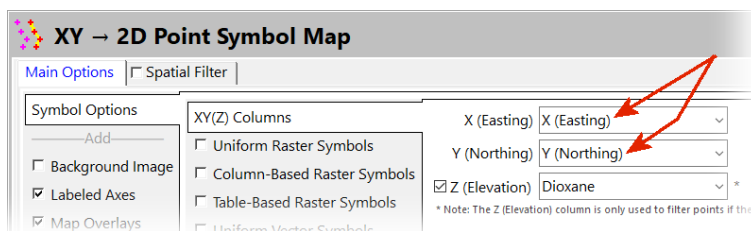

Figure 22
- We'll start by selecting the Datasheet columns that contain the X and Y coordinates (Figure 22).